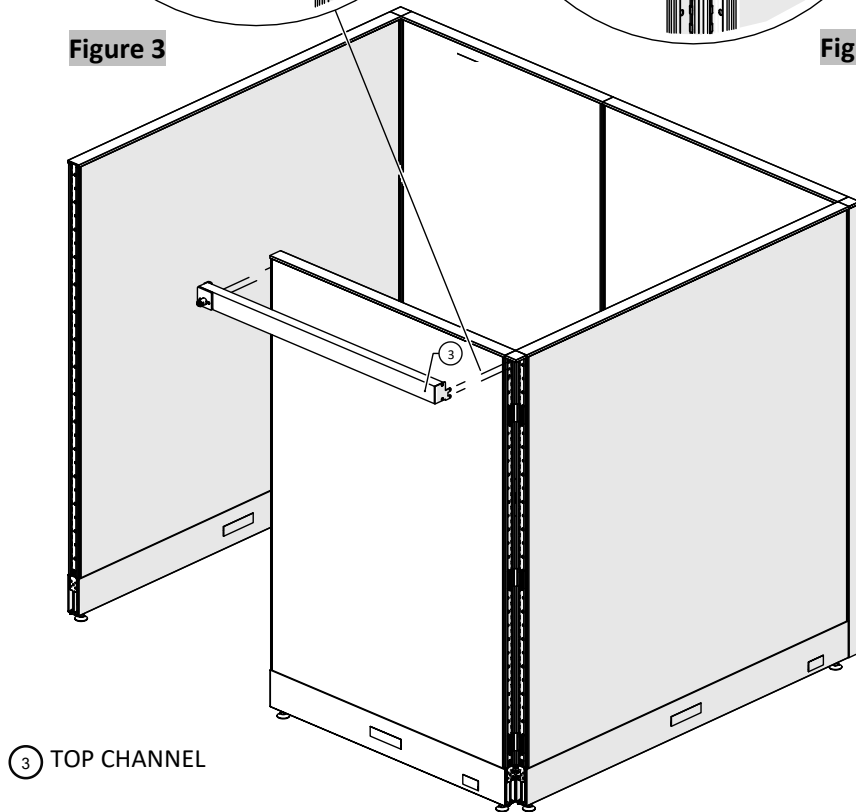

**Figure 3**
4. Ensuring the panels are level, install the top channel (2 people) by inserting the two projections into the topmost panel slots, (Figure 3).